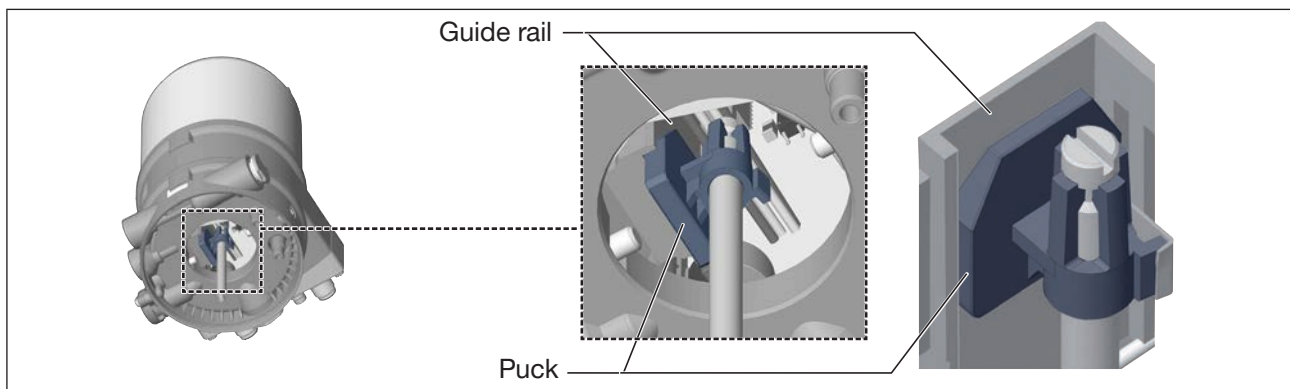

Figure 19: Aligning the puck
- Place Type 8692/8693 onto the actuator. In doing so, align the puck of the actuator with the guide rail of Type 8692/8693 (see Figure 19).